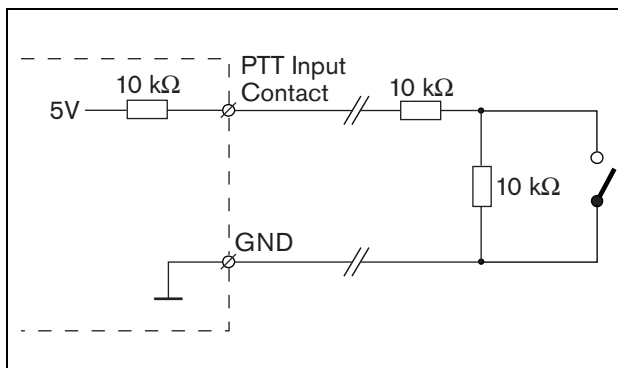

figure 18.8: Press-to-talk (PTT) key
- Press-to-talk (PTT) key. See figure 18.8 for a connection diagram. The two resistors must be placed in the circuit, because the contact is always supervised by the system software.